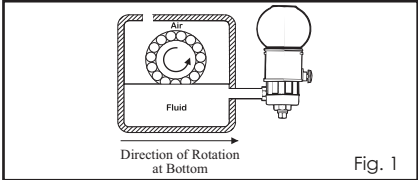

Fig. 1
- Prior to installing the Opto-Matic Oiler, shaft rotation direction must be determined, typically indicated by an arrow on the casting of the equipment. Install oiler on the side of the equipment facing the direction of shaft rotation to prevent misfeeding of the Opto-Matic Oiler (Fig 1).